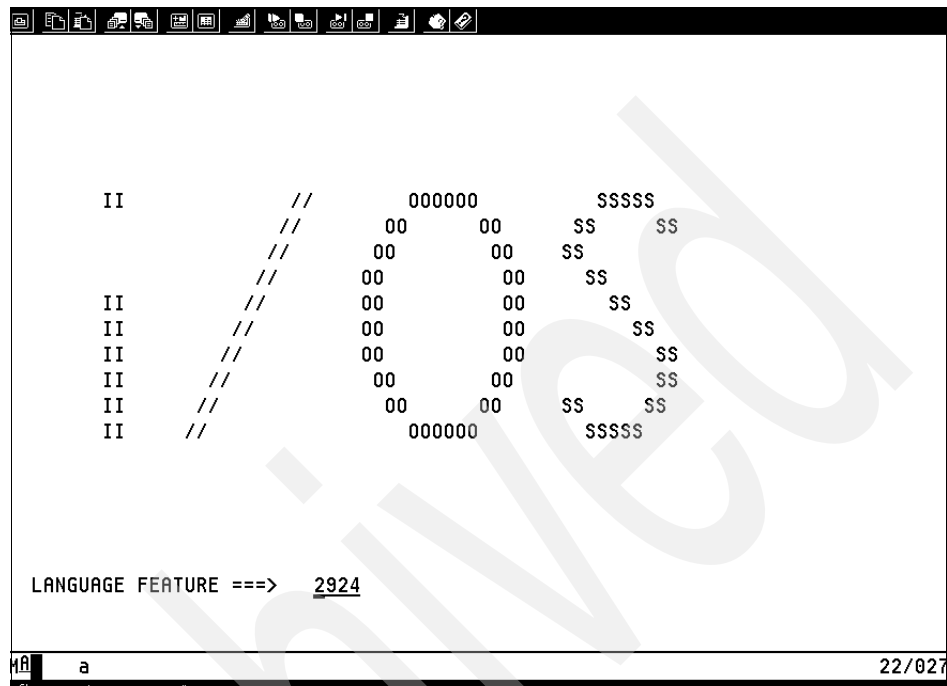

Figure 5-32 LIC initial installation screen
3. After connecting the IBM System i for Windows LAN console, the screen shown in Figure 5-32 appears.